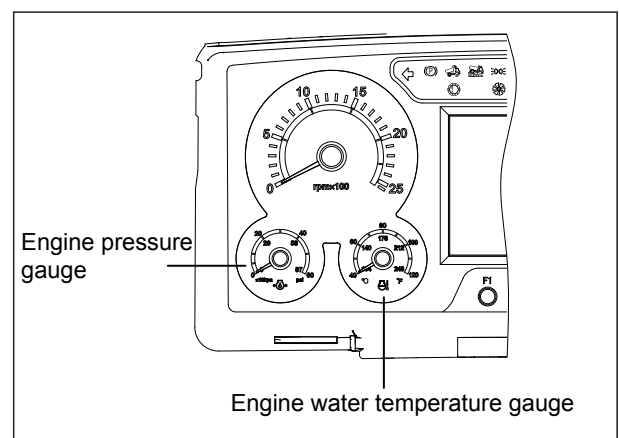

Fig 4.19
8. Check the engine oil pressure gauge. Within 10 to 15 seconds at engine idle, the gauge needle should rise into the yellow zone. If the needle does not rise within 15 seconds, shut off the engine and do not operate until the fault is identified and corrected. (see Fig 4-19).
9. Observe the engine water temperature gauge. After a few minutes running time at moderate load and varying speed, the gauge needle should be in the green zone. If the needle moves into the red zone, the engine is over heated and should be shut down immediately. (see Fig 4-19).